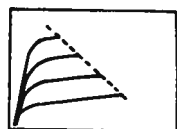

Fig. 12. Curve display with current limiting
- Adjust step switch "LOAD Ω " so that the curve display is limited (e.g., according to the dotted line in Fig. 12).
When a curve trace of a transistor is displayed the highest power dissipation occurs during the transition from the conductive to the non-conductive state. Fig. 12 shows a curve trace whereby the power dissipation limit P_C max. of ... mW is represented by the dotted line. This display method with limiting at P_C max. can be approximated with the curve tracer.
Dependent on the base drive of a transistor currents will flow through the collector circuit which are a factor h_{fe} higher. When series resistors are included in the collector circuit a voltage drop will arise across this resistance which causes a decrease of the collector-emitter voltage of the semi-conductor under test which depends on the transistor drive. In this way a power limitation is obtained which can be adapted to the maximum permissible value of the transistor and which can be adjusted to any value within the resistance and voltage ranges (Fig. 12).